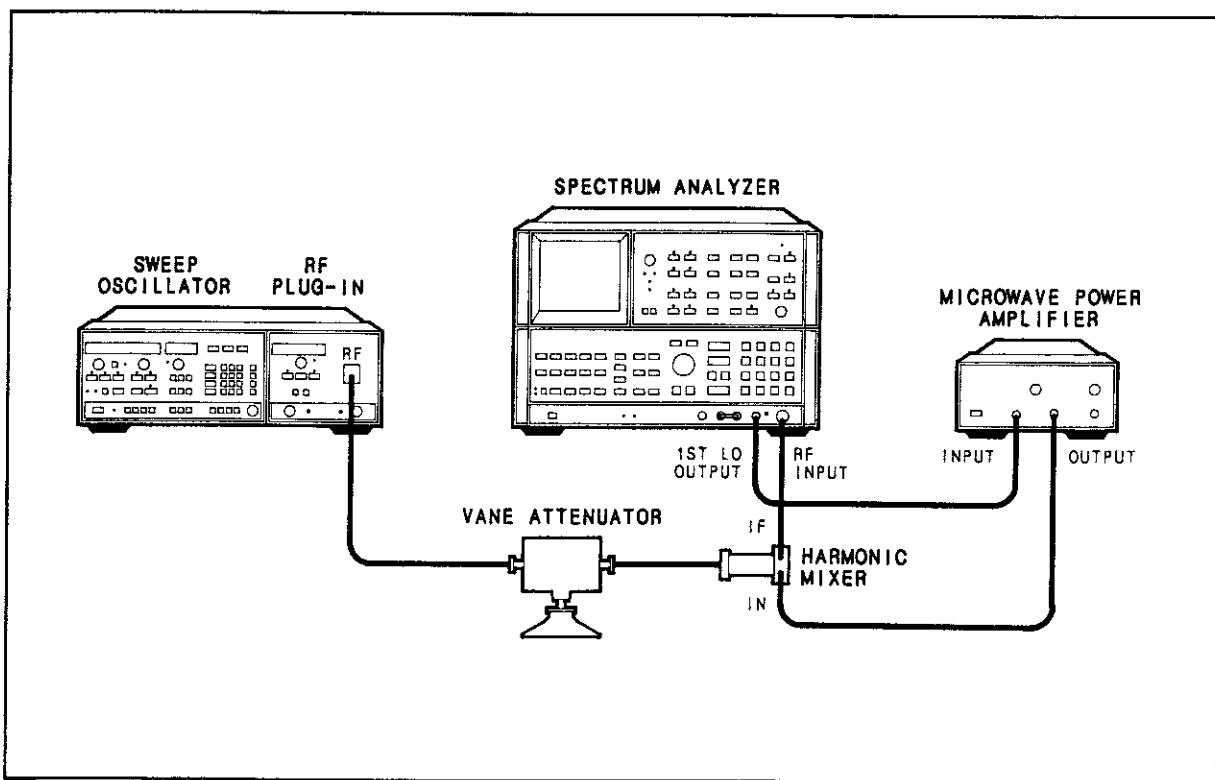

Figure 4-14. AM ON/OFF Ratio and Square Wave Symmetry Test Setup
1. Connect the equipment as shown in Figure 4-14. Set the vane attenuator to 20 dB. Press 8350A/B **[INSTR PRESET] [CW] [MOD]**.